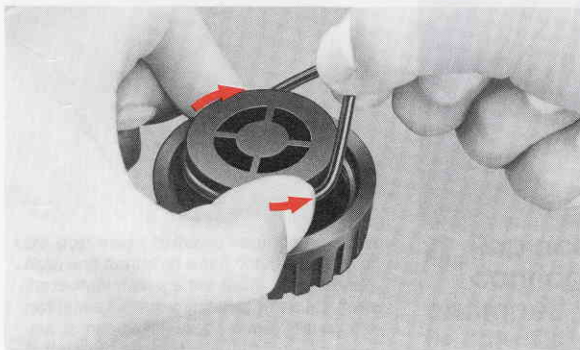
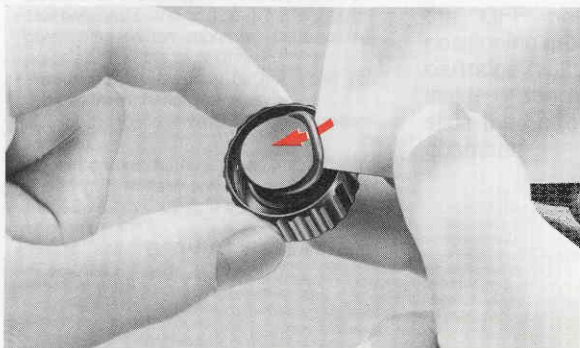

Fig. 1
Fig. 2
1. To remove the O-rings, except the one in the synchro socket cover, grasp the ring between your thumb and forefinger. Pinch your fingers together as you slide them in the direction of the arrow to create slack in the O-ring. Then grasp the slack portion with your other hand and pull the ring off (see Fig. 1). To remove the O-ring in the synchro socket cover, use the edge of a credit card or dive card or some thin, **blunt**, instrument. **Never use a knife or other sharp-edged object.** Push up on the center of the cover with a fingertip (or pointed object), insert the card under the ring, and pull it up to lift the O-ring out (see Fig. 2). Do not scratch the O-ring in the process.